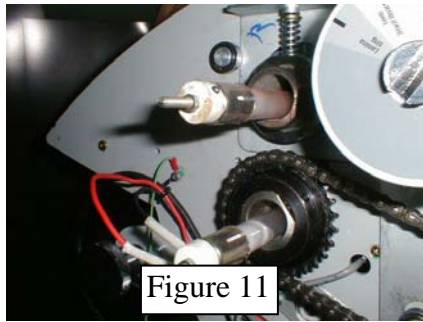

Figure 11
- Take out the broken heater. Figure 11